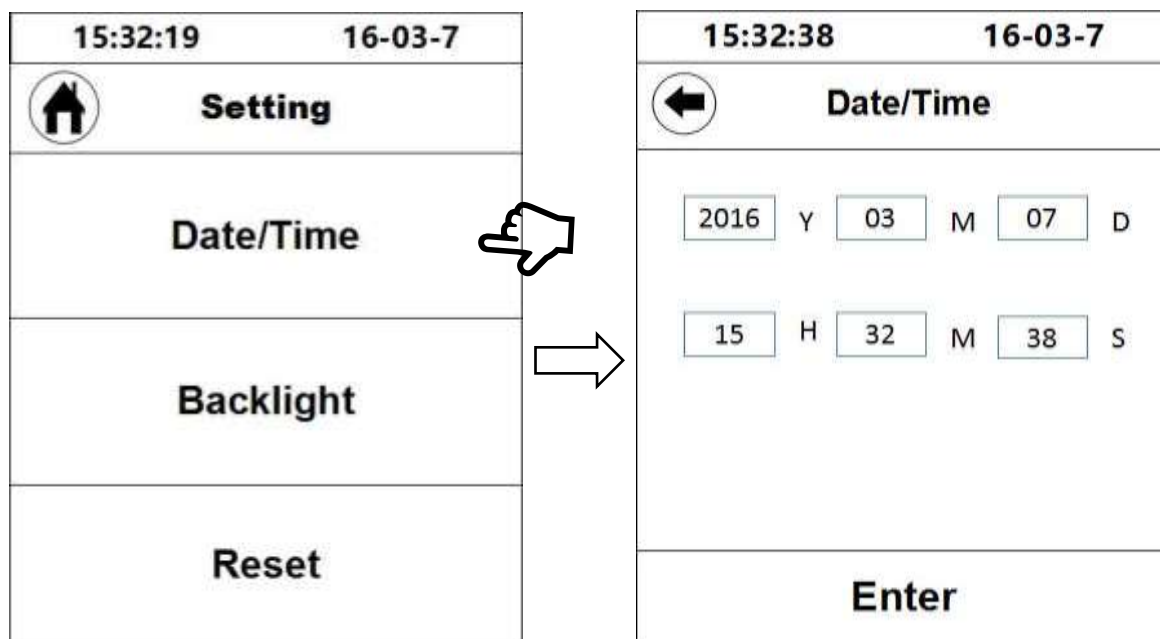

Fig. 29
4.1 Time and date setting: click "Time/date setting" to adjust the values of date and time (Fig. 29).